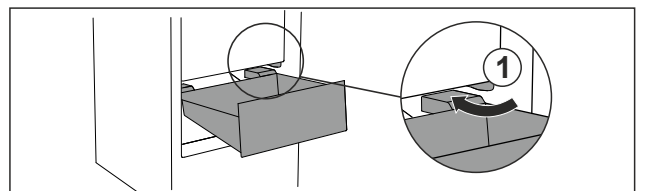

Fig. 37
► Guide drawer in at an angle around the stoppers Fig. 37 (1).